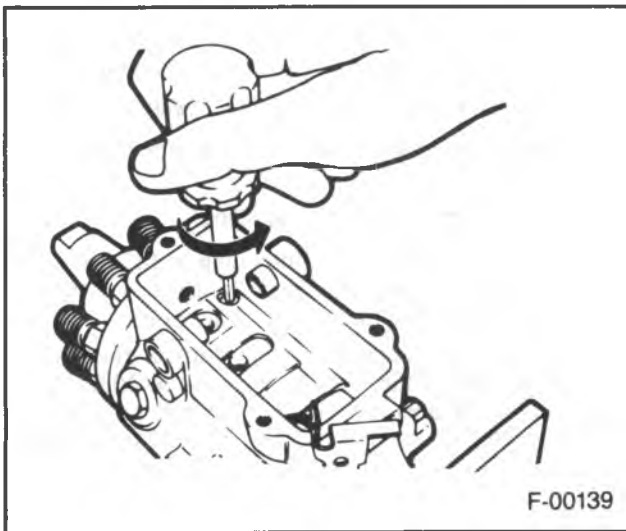

Figure 26 — Vent Wire Assembly
4. Housing vent wire screw assembly (figure 26).
9. Housing vent wire screw assembly (figure 26).